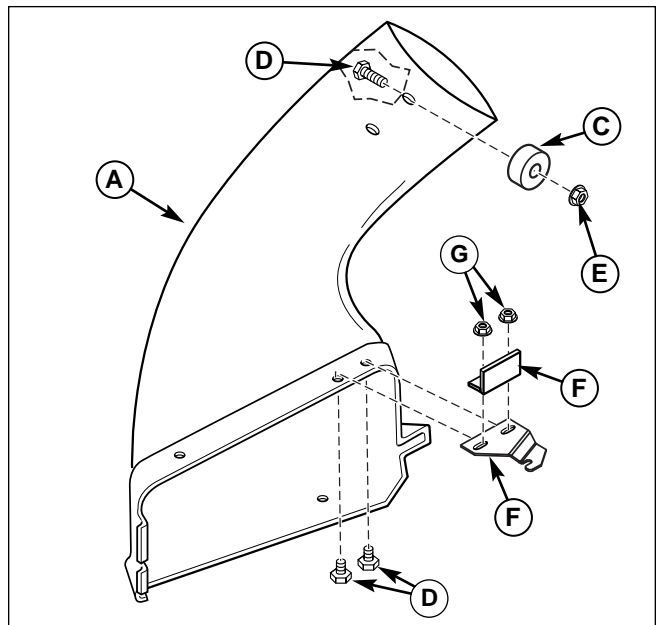

Figure 6. Install Pin and Bracket
5. Reinstall the large washer (B, Figure 6), spring washer (C) and capscrew (D). Use a wooden block (A) to prevent blade rotation while tightening the capscrew (D) to 45-55 ft. lbs. (61-75 Nm).
1. Secure the puck (C, Figure 6) to lower chute (A) using 5/16-18 x 3/4 capscrew (D) and 5/16-18 locknut (E).
2. Install bracket (F) and deflector prop (G) to lower chute (A) using 5/16-18 x 3/4 capscrews (D) and 5/16-18 locknuts (E).